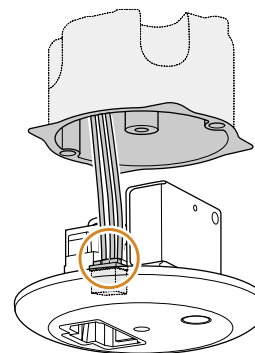

Figure 4
- 5 Connect the power supply to the terminal block provided, see figure 4.